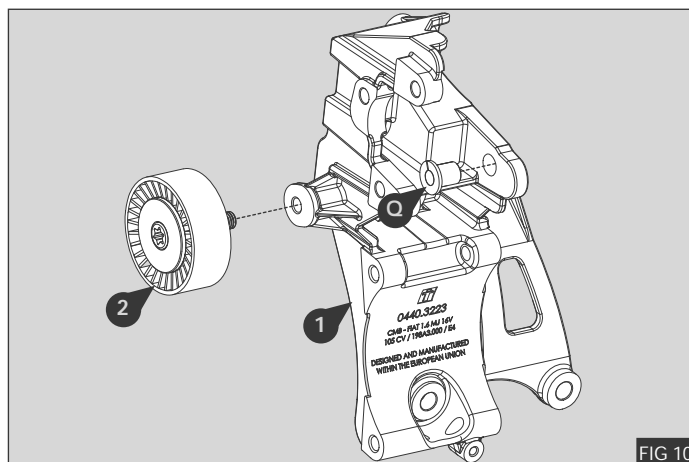

FIG 10
2. Install the sliding bush  into the mount bracket  - Fig 10